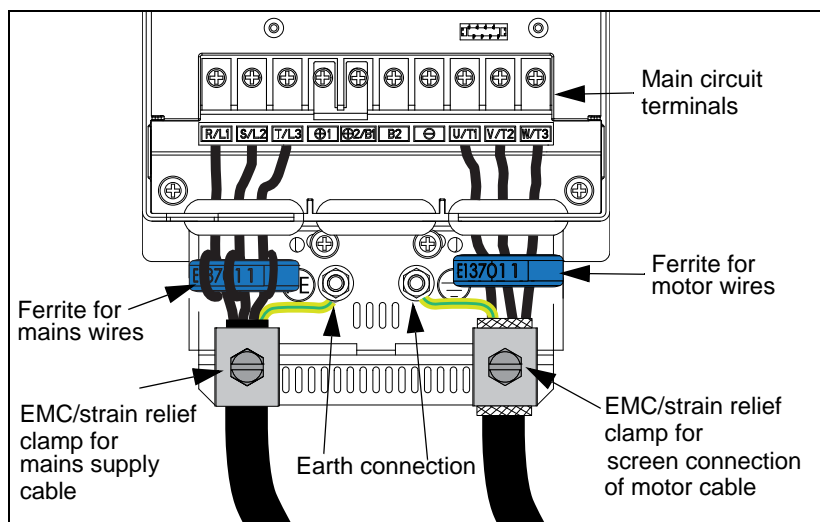

Fig. 8 Mains and motor cable connections
Connect the mains and motor cables according to Fig. 8. Secure the cables with the EMC/strain relief clamps.
- Connect the motor cable screen to the clamp according to Fig. 8.